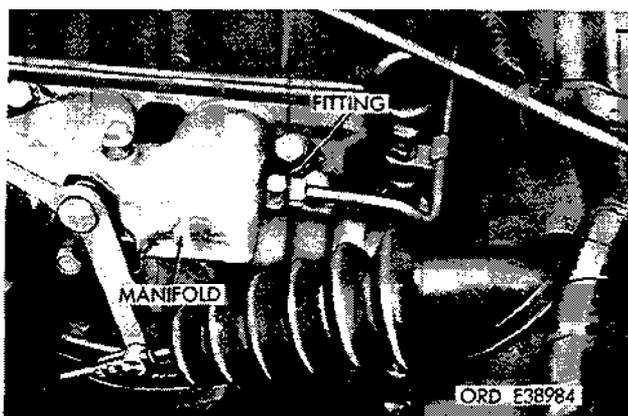
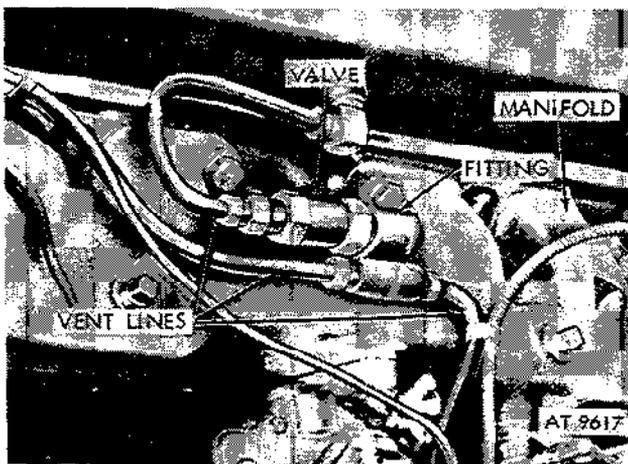
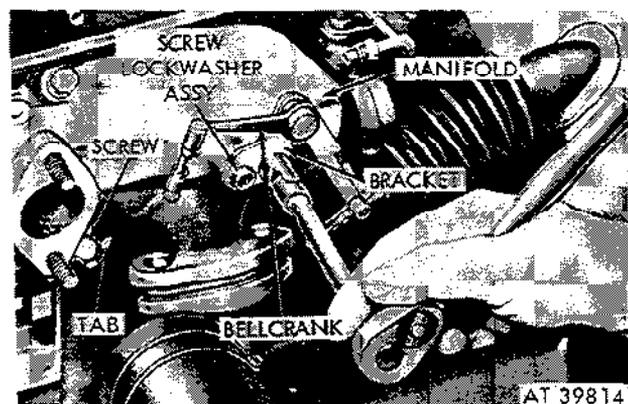
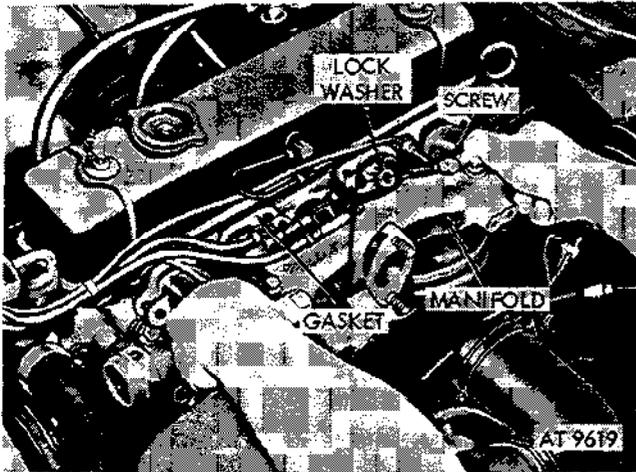

Figure 2-71. Unscrew vent line fitting from intake manifold
Figure 2-72. Disconnect vent lines from valve and fitting.
Figure 2-73. Remove bellcrank.
Figure 2-74. Remove intake manifold.
a. Removal. Refer to fig. 2-71 through 2-74 for removing intake manifold.
(1) Remove air cleaner base and carburetor.
(2) Unscrew vent line fitting from intake manifold (see fig. 2-71).
(3) Disconnect all vent lines from crankcase ventilation metering valve and fitting (see fig. 2-72).
(4) Unscrew crankcase ventilating valve and fitting from intake manifold.
(5) Remove two bellcrank screws and lock-washer assemblies securing accelerator bellcrank bracket to intake manifold. Remove bellcrank (see fig. 2-73).
(6) Open tabs on dual tab washer and remove two screws and tab washer securing intake manifold to cylinder head.
(7) Remove six screws and four lockwashers securing intake manifold to cylinder head. Remove intake manifold and discard the two gaskets (see fig. 2-74).
b. Installation. Refer to figs. 2-74 to fig. 2-71 and reverse removal instructions to install intake manifold.